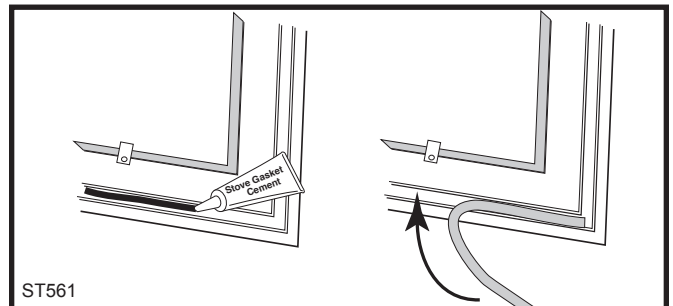

Fig. 24 Lay a bead of gasket cement then press gasket in place.
4. Starting at one end, pack a new gasket into the groove. Where the two ends of the gasket meet, ensure a good joint before trimming any excess. Do not overlap or leave ragged edges. (Fig. 24)